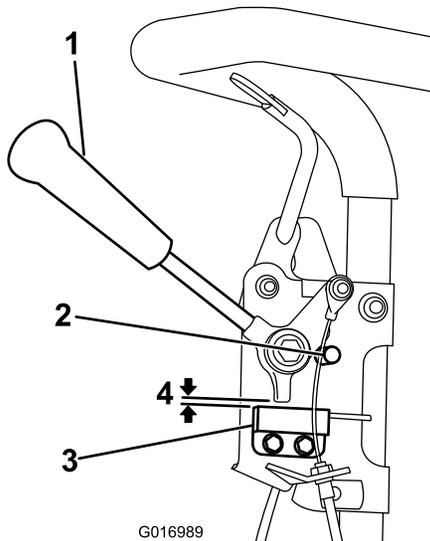

Figure 33
1. Make sure the engine is off and the traction lever is disengaged and resting against the neutral stop (Figure 33).
2. Loosen the interlock switch mounting fasteners (Figure 33).
3. Place a .032" thick shim between the traction lever and the interlock switch (Figure 33).